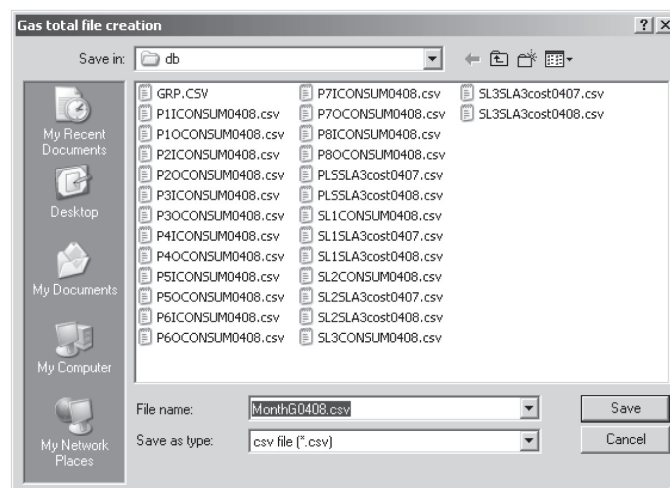

Fig.15 Input the file name dialog box
- 1) When you click the check box “The gas energy consumption”, Fig.15 dialog box will appear. If you want to change the file name, the folder name and the drive name, select another drive name and the folder name, and type another file name that you want.